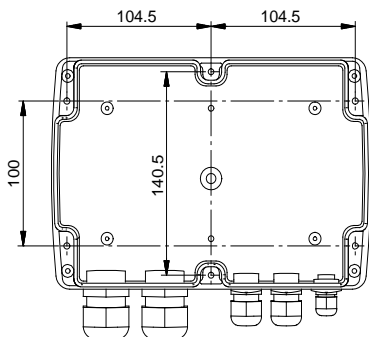

Fig. 2
The box has six mounting holes ($\varnothing 4$). See fig. 2. The dimensions are in mm.
- Horizontally to allow condensed water, if any, to escape. See fig. 2.